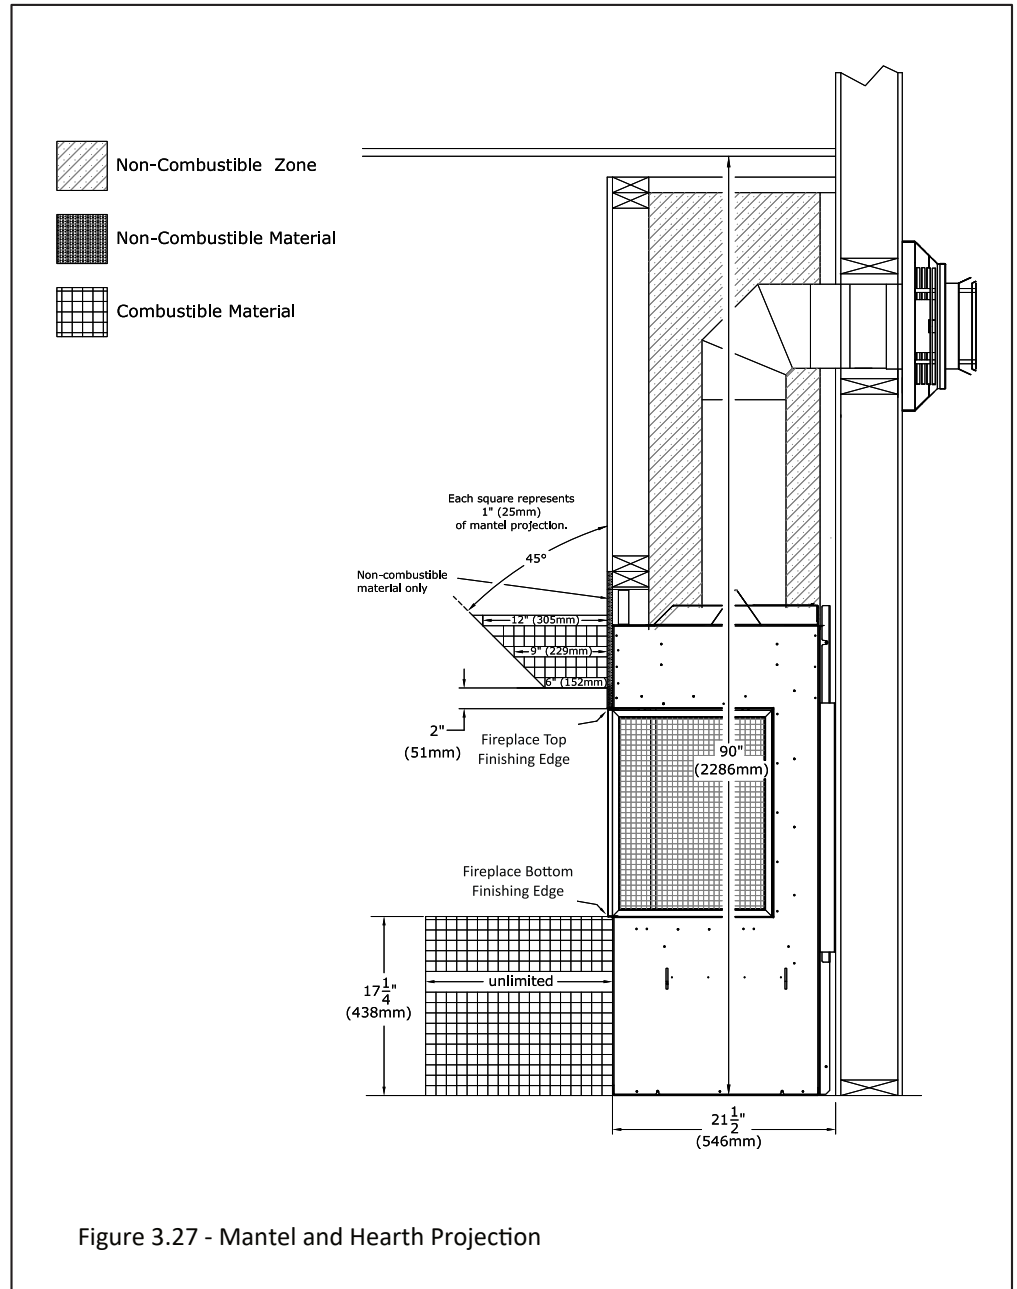

Figure 3.27 - Mantel and Hearth Projection
- **Combustible Mantel Projections:** A maximum of a 6" (152mm) mantel can be installed at 2" (51mm) above the side and top finishing edge. Mantel projections can increase 1" (25mm) of depth for every 1" of height starting at the 6" (152mm) mantel. See Figure 3.27.
- **Combustible Hearth:** Combustible hearth can have an unlimited projection. Hearth can be raised flush to the bottom finishing edge. See Figure 3.27.